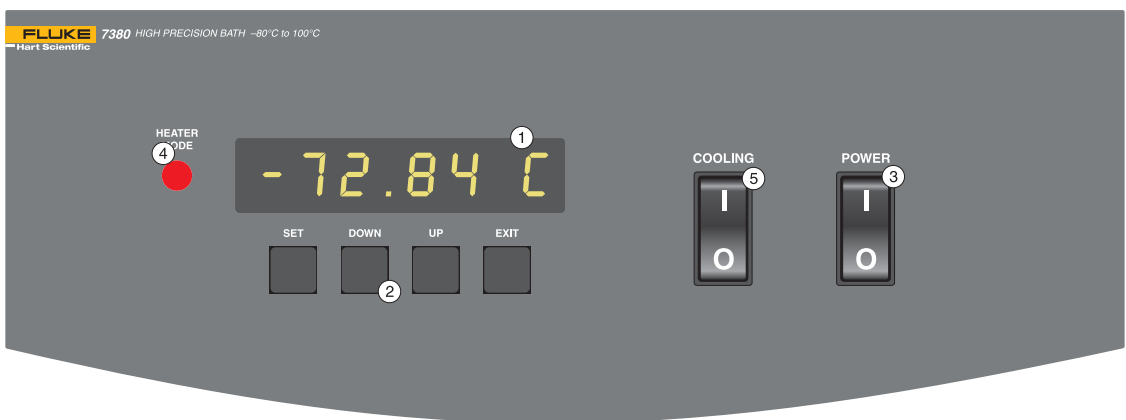

Figure 2 Front Panel
The following controls and indicators are present on the controller front panel (see Figure 2 below): (1) the digital LED display, (2) the control buttons, (3) the on/off power switch, (4) the heater mode light, and (5) the cooling on/off switch.